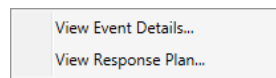

Figure 3-41 – EM Context Menu
- **Event Context Menu** (see Figure 3-41): This context menu provides the operator with options for viewing event details and response plans.